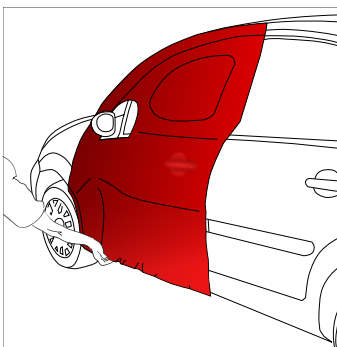

Figure 23
- › Once the door handles are done, stretch the film down to the bottom of the vehicle body. (FIG. 23)